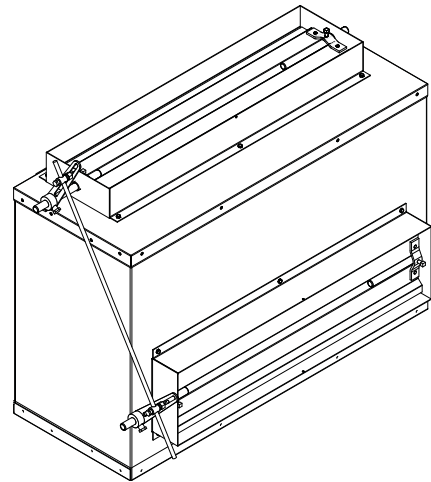

Fig. 14 — Install Damper
6. Insert 5/16 in. (7.94 mm) damper rod through mounting hole of each swivel. (See Fig. 14.) Position shaft to ensure there is no interference at any point during travel. Tighten rod clamp of swivel onto each damper rod.